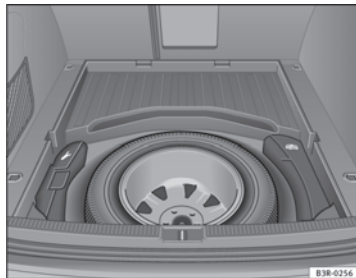

Fig. 192 Spare steel rim wheel
- Turn the plastic knob ⇒ **fig. 192** anti-clockwise.